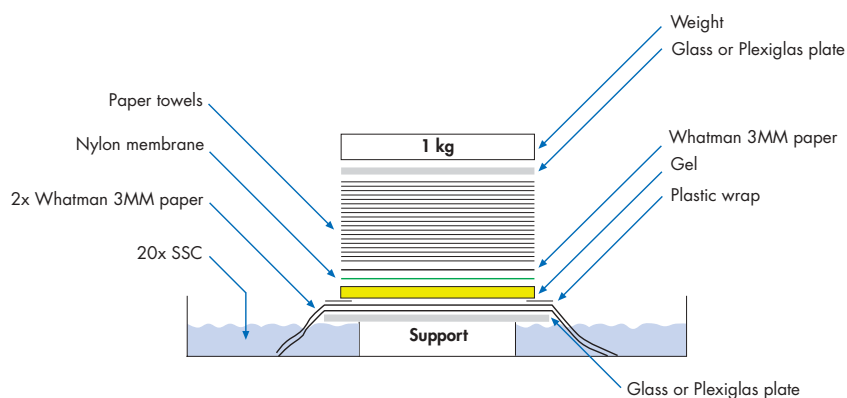

Figure 2. Northern blot setup.
2. Cut two lengths of Whatman paper wider than the gel, long enough to fit under the gel and reach to the bottom of the dish on either side (see **Figure 2**).
1. Fill the buffer tray with 1 liter 20x SSC. Place a glass or Plexiglas plate across the tray or on top of a support (**Figure 2**).
2. Place the two lengths of presoaked filter paper over the glass or Plexiglas plate so that the ends contact the bottom of the tray (**Figure 2**). Remove any air bubbles between the sheets of filter paper and the plate by rolling a pipet several times back and forth over the surface.
6. Place the presoaked nylon membrane on top of the gel so that it covers the entire surface (**Figure 2**). Do not move the nylon membrane once it has been placed on the gel. Remove any air bubbles between the membrane and the gel by gently rolling a pipet several times back and forth over the surface.
7. Place the two presoaked sheets of Whatman 3MM paper on top of the nylon membrane (**Figure 2**). Again, remove any air bubbles by gently rolling a pipet several times back and forth over the surface.
8. Place a 15–20 cm stack of dry paper towels on top of the filter paper (**Figure 2**).
9. Place a second glass or Plexiglas plate on top of the paper towels. Place the 1 kg weight on top of the plate (**Figure 2**).